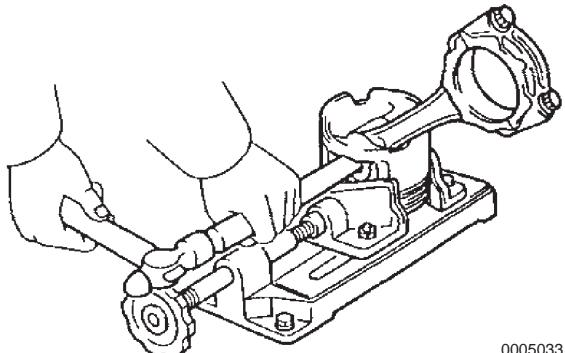

Figure 5-110
6. Lightly tap out the piston pin using a plastic hammer and copper bar to disconnect the connecting rod (Figure 5-110).